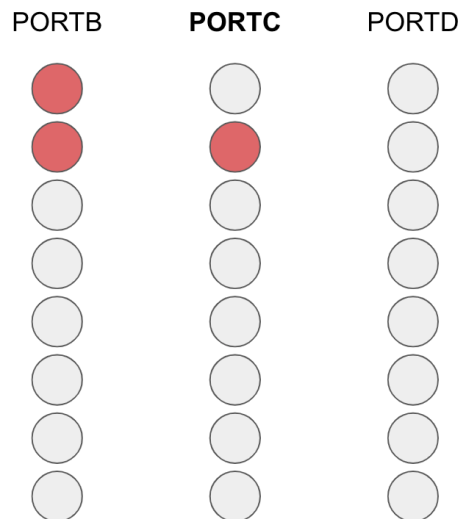

Figure 6: PORTC configured to "defend" action.
- RA4 is pressed and released to configure action type as "defend" in PORTC. After the configuration, the LEDs are shown in Figure 6. Note that blinking should continue as long as PORTC is selected, meaning that even the value is updated, LEDs should continue to blink in 500ms intervals.